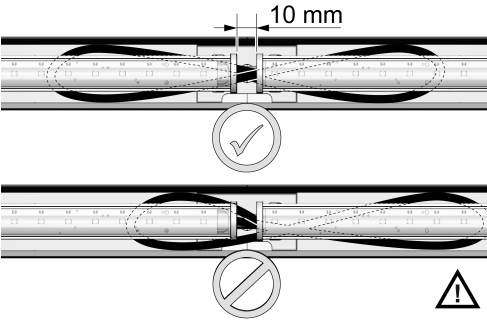

Figure 9: Alignment of the cable loops
- Maintain 10 mm spacing between two LED light inserts (Figure 9).
- Make sure the cable routing is correct! Connection lines must be routed in a loop centrally below both LED light inserts (Figure 9).